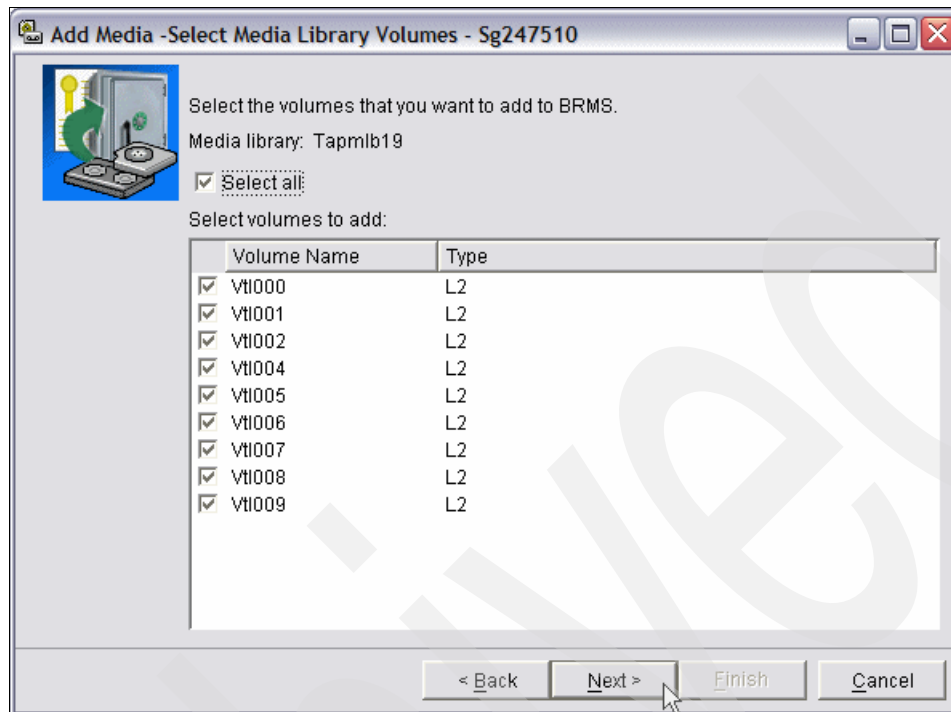

Figure 6-21 Add Media - Select Media Library Volumes
15. The Add Media - Select Media Library Volumes window opens. In this window, select whatever volumes you find best for your requirements: one, select one or all, as we have done in our example in Figure 6-21. Click **Next**.
You might have observed that earlier in this book, we created ten virtual volumes using the Virtualization Engine for Tape Console. For some reason, VTL003 never showed up in the rest of this example. Refer to Figure 6-21 on page 147.